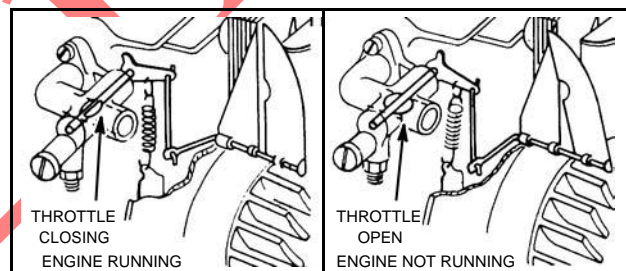

Fig. 316 – PNEUMATIC GOVERNOR, TYPICAL
2. **PNEUMATIC GOVERNOR.** This operates by air pressure from the flywheel against an air vane which in turn is linked to the carburetor throttle, Fig. 316.